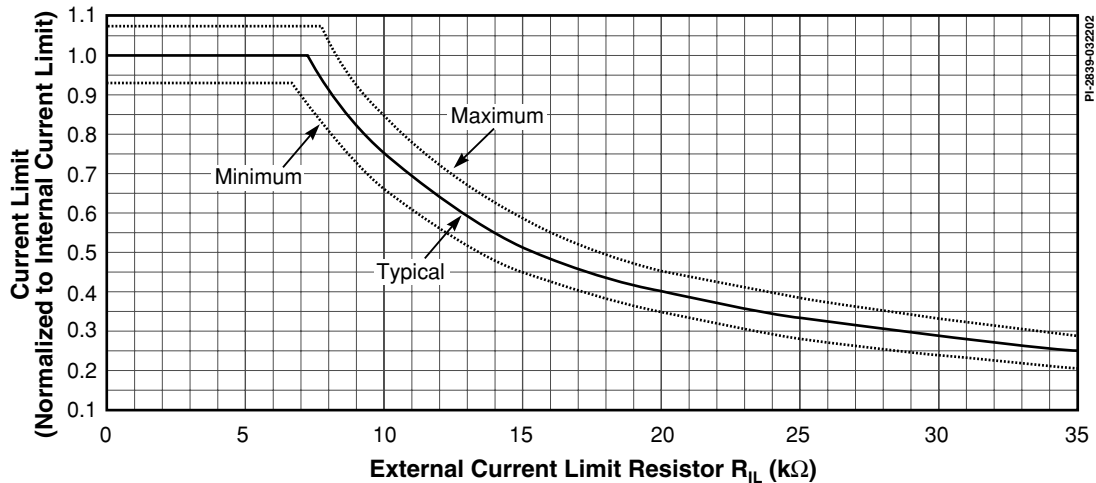

Figure 32. Current Limit vs. External Current Limit Resistance.
- B. For externally adjusted current limit values, please refer to Figure 32 (Current Limit vs. External Current Limit Resistance) in the Typical Performance Characteristics section.